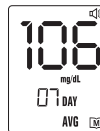

Figure 37
After the audible prompts, press and hold the “M” button for two (2) seconds and the meter will recall the 7-day average. See Figure 37.